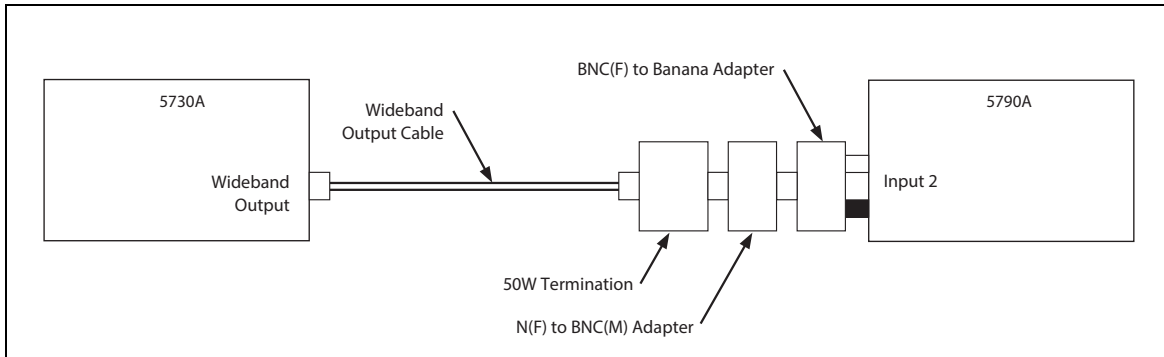

Figure 18. Wideband Accuracy at 1 kHz Test Setup
1. Connect the equipment as shown in Figure 18.